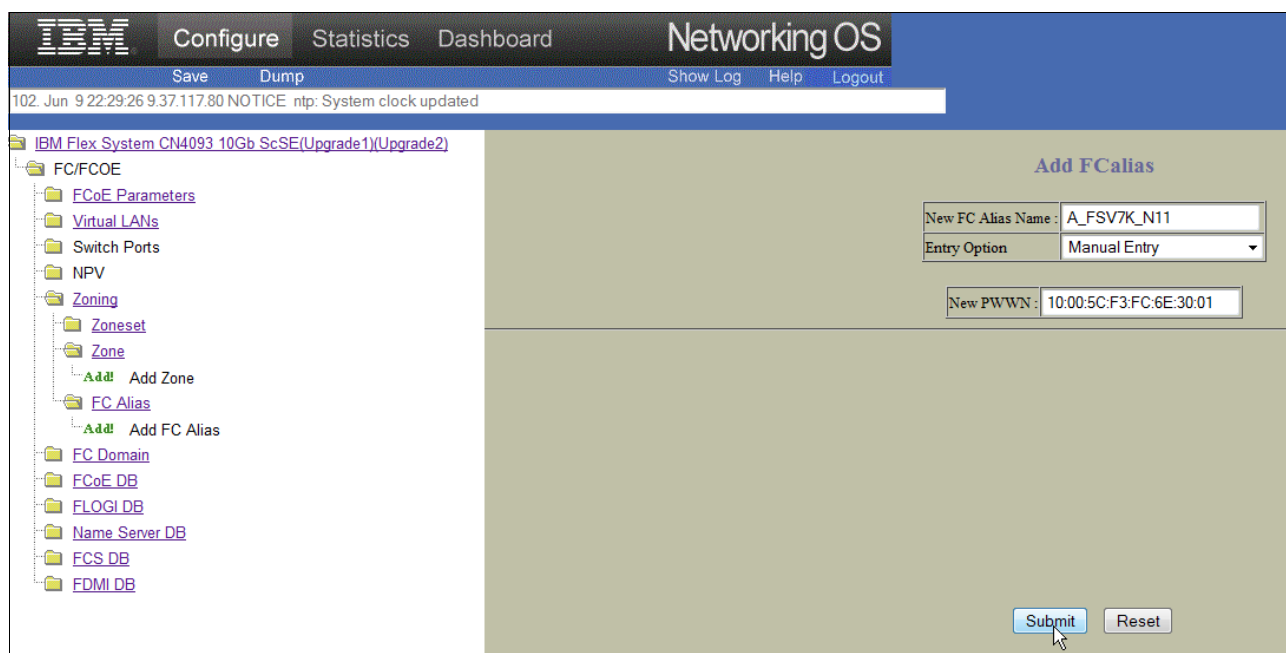

Figure 8-8 Define the name and wwpn of the new Alias
8. Add the name of the alias. In this example, it is **A_FSV7K_N11** and the WWPN is shown in Figure 8-8. Click **Submit**.